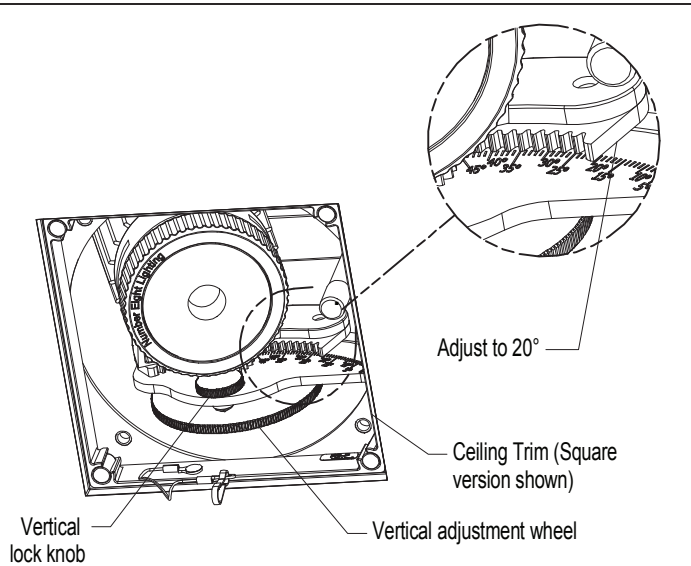

FIG 2.1 Adjust Vertical Aiming Angle
Step 1 Unlock & adjust J Lamp Module to 20° vertical aiming angle for optimal wall wash performance-FIG 2.1.